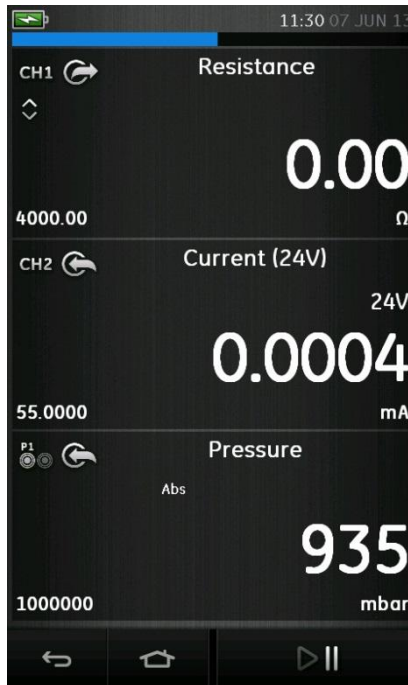

Figure 2-8 Calibration Window – Reduced View
- Figure 2-8 displays a reduced view of all the selected channels.